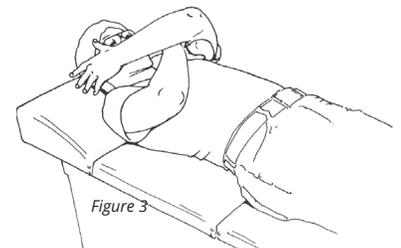

Figure 3
Step 4: Next, move your amputated arm through the pattern while you push against its movement with the uninvolved hand over the biceps muscle (Figure 3). Repeat several times, and again concentrate on imagining the movement of the missing elbow and thumb.